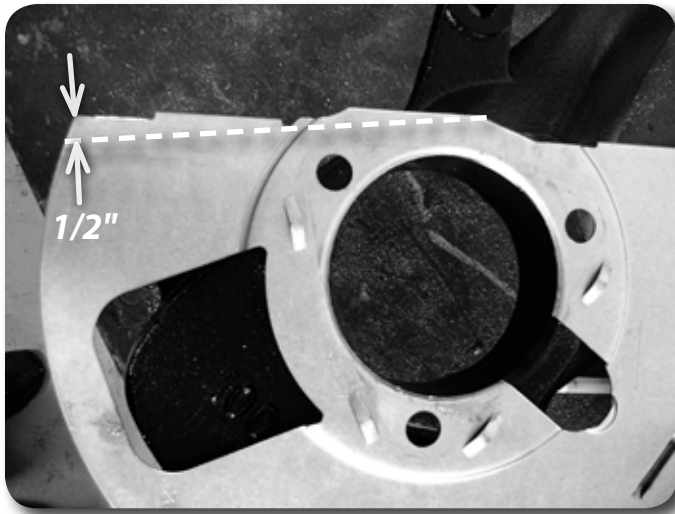

Figure 31
53. The brake dust shield needs to be trimmed. Measure in from the lower vertical edge (opposite the ABS sensor location) 1/2" and make a straight line to the edge shown in **Figure 31**. Cut the section off of the brake dust shield.